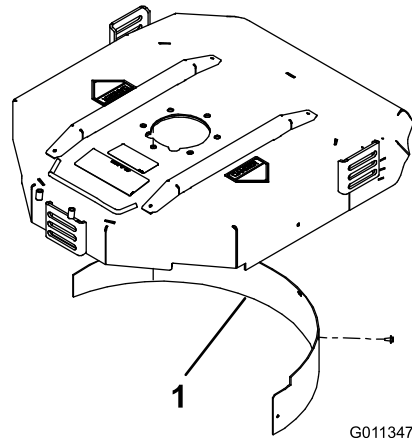

Figure 4
2. Install the mulching baffle in the rear opening and secure it with 5 flange head bolts (Figure 4).